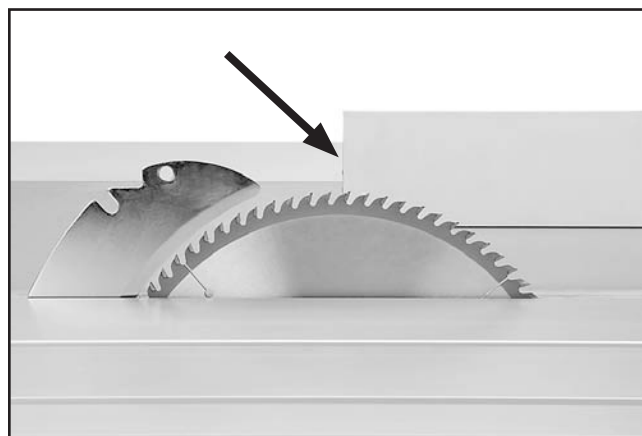

Figure 78. Rip fence even with center of blade (guard removed from spreader for clarity).
4. Slide the leading end of the rip fence so it is even with the center of the main saw blade as shown in **Figure 78**.